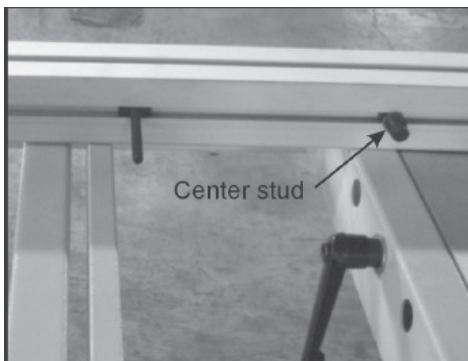

Fig. 18
2. Sliding the centre stud, an M8-1.25 x 60 T-bolt and screw M8-1.25 x 25 Knob into the crosscut fence (Fig. 18)